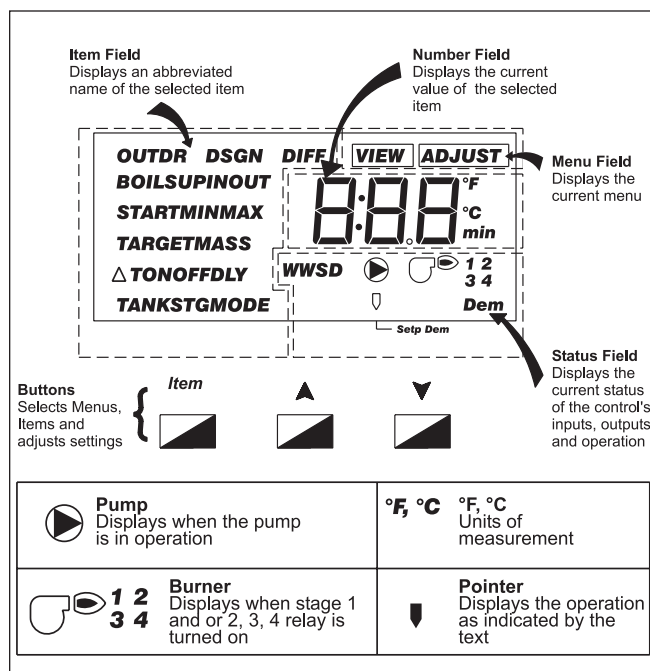

Figure 26. Temperature Control Symbol Description.
**BOIL TARGET** (Boiler Target Temperature): Your desired set-point temperature. See Section 6.4.5 and Figure 26 for more information.